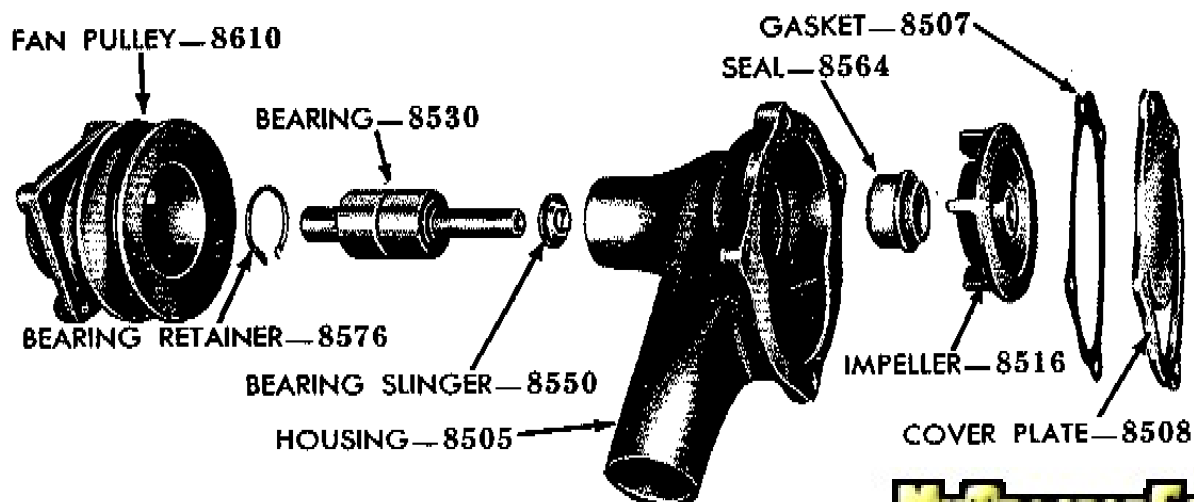

Fig. 34—Water Pump, Disassemble
The disassembled water pump is shown in fig. 34.
a. **Disassembly.** Place the water pump in a vise. Drive the shaft out of the pulley with a driver as shown in fig. 33. Remove the snap ring (fig. 34) from the water pump body. Press the shaft and bearing assembly out of the water pump body (fig. 34).
Remove the water pump seal snap ring, wa from the impeller (fig. 34).
c. Inspection. Replace a cracked or damaged water pump body (fig. 34). Replace the water pump seal if it is worn. Replace an impeller if it is cracked, excessively pitted, or if it has broken or damaged fins. Replace a pulley hub that is cracked or has stripped threads. Rotate the water pump bearing. If the bearing binds or has a tendency to stick, replace the bearing assembly. Replace the bearing assembly if there is end play or side play in the shaft.